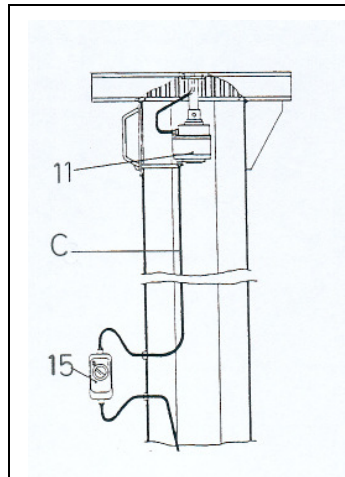

fig.43
2. Connect the long cable **C** to the main switch.15 (fig.43)